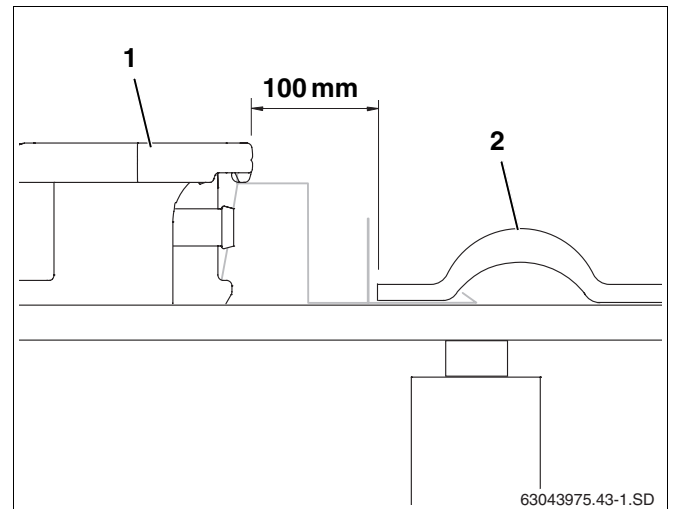

Fig. 24 Laying first collector and screwing in place
- ▶ Allow first collector (Fig. 24, **Item 1**) to slide into place in the anti-slip protection device and position 100 mm from the outer (cut if necessary) pan tile (Fig. 24, **Item 2**).